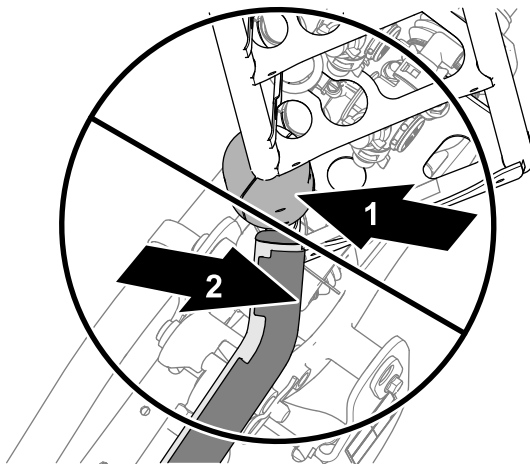
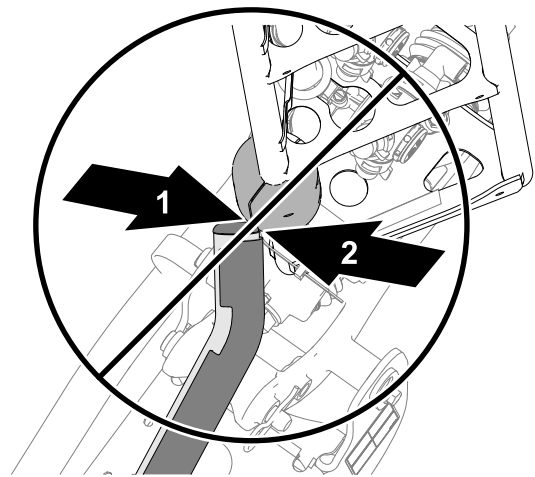
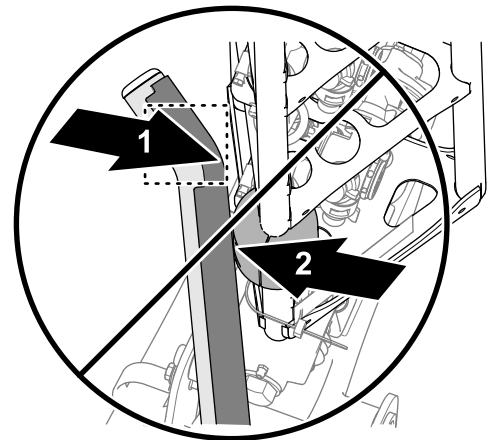

Figure 6
Figure 7
Figure 8
5. If either upper cradle tube is misaligned with the slide block as shown in Figure 6, Figure 7, or Figure 8, adjust the cradle position; refer to Aligning the Cradles to the Outer Booms (page 80).